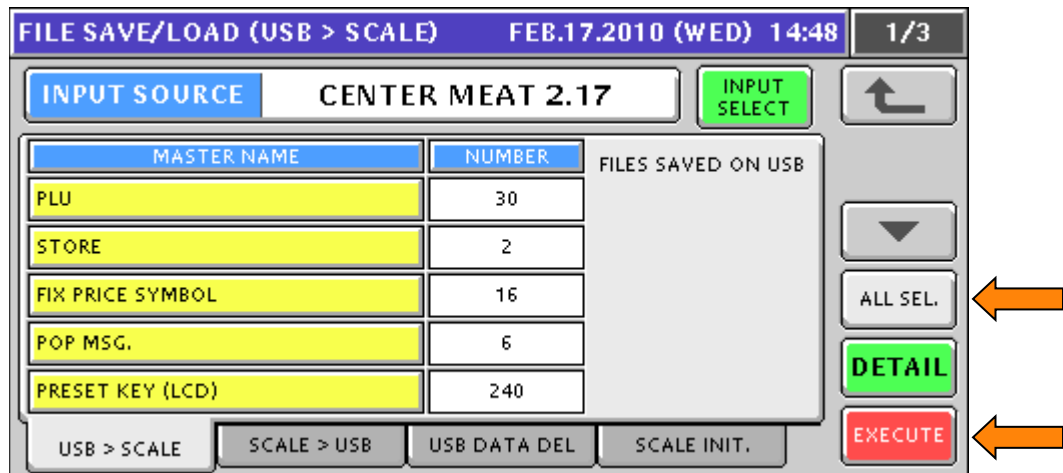

Figure 53. Select Files for Input
- j. Press the **ALL SEL.** button to select all files for input or press individual files. The selected files are highlighted yellow. See Figure 53.